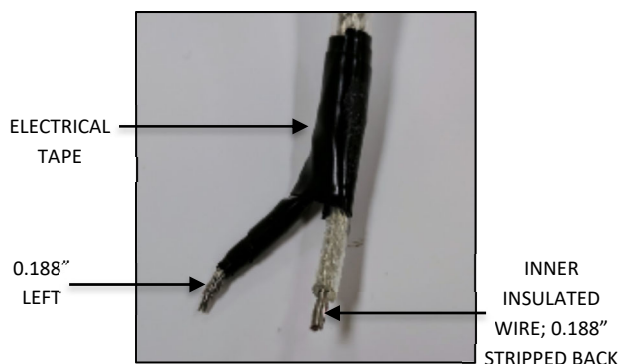
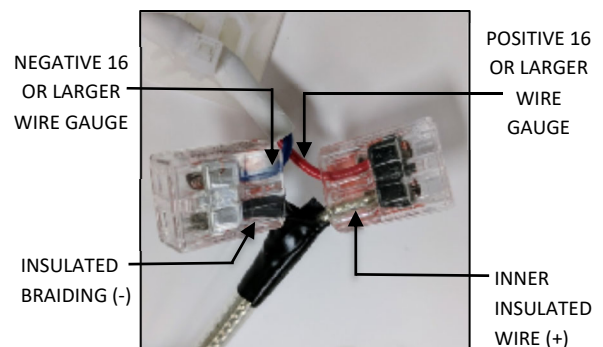

FIG. 28
FIG. 29
3. Using electrical tape, insulate the twisted strands leaving 0.188" exposed for connections. Strip off 0.188" of the inner insulation as you normally would for 18AWG stranded core wire as shown in FIG. 28 below. Connect the inner insulated wire (+) to the positive 16 gauge or larger wire ran in step 5 at the hanging bracket and Connect the outer braiding (-) to the negative 16 gauge or larger wire ran in step 5 at the hanging bracket FIG. 29 below.